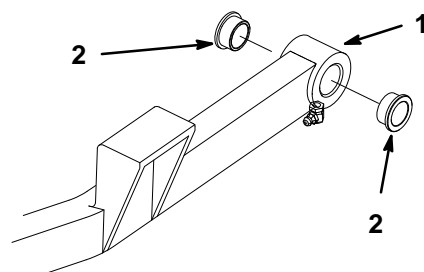

Figure 38
4. Insert a pin punch into the push arm and carefully drive out the bushings (Fig. 38). Clean the inside of the push arm.
5. Use a hammer and flat plate to carefully drive new bushings into the end of push arm (Fig. 38).